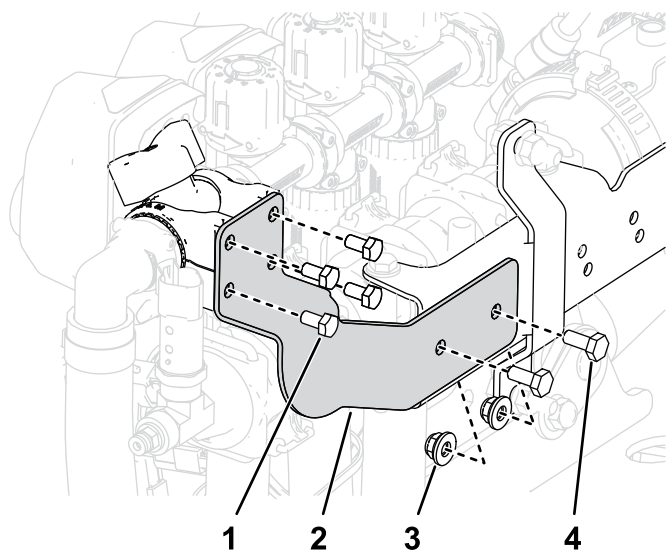

Figure 24
1. Remove the existing control valve bracket and the existing control valve (Figure 24).